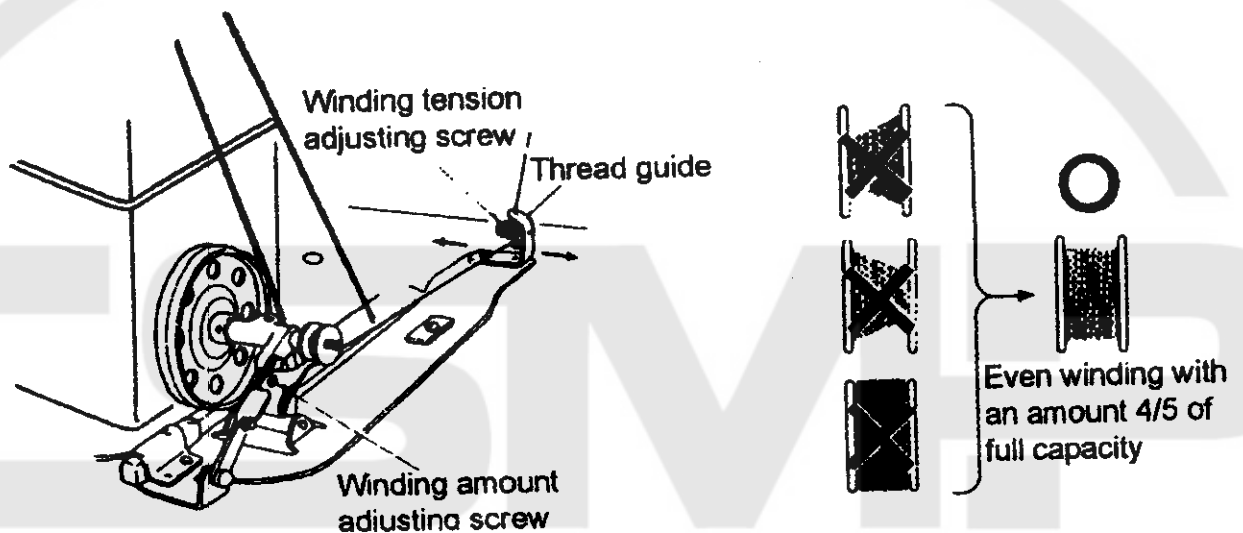

Fig. 2
6、 How to Wind the Lower Thread (Fig. 2):